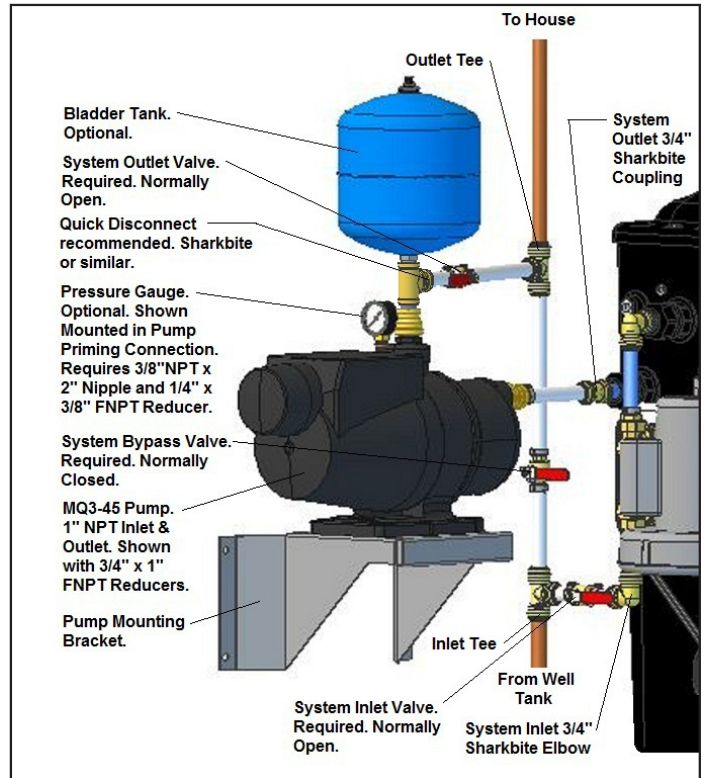

Figure 5
Check to ensure all components are intact and included in shipment.(See Figure 5 and 8)
1. If using a pump attach Mounting Bracket to wall as shown in Figure 5 (page 9). Note bracket hole height is specific to the pump. Adjust bracket height as required to place pump suction pipe centerline at the system outlet centerline as specified in Figure 5.
2. Install the Suction Check Valve provided with the pump into the pump inlet as shown in the pump installation instructions. This will prevent loss of pump prime and possible interruptions in the water supply to the house. Remove the priming plug from the pump and add the specified volume (See Pump Installation Instructions) of water to the pump. Either re-install the priming plug or install a $\frac{3}{8}$ " NPT x 2" long pipe nipple and attach a $\frac{1}{4}$ " NPT Pressure Gauge with with $\frac{1}{4}$ " x $\frac{3}{8}$ " FNPT Reducer to the pipe nipple (Figure 5).
5. Install pipe/tube from System inlet (Figure 5) to the desired location of the supply from the well tank. At the supply end a tee is required to accommodate supply from the well and the system bypass connection. The system inlet is provided with a $\frac{3}{4}$ " Sharkbite Elbow suitable for $\frac{3}{4}$ " Nominal Copper Tube or Pex Tube, insertion length into Sharkbite Fitting is 1". A System Inlet Valve (normally open ball valve) is required between the tee and Sharkbite Elbow.
4. Plumb the water line to the house into the Outlet Tee (Figure 5, 7 or 8, depending on System and Pump).